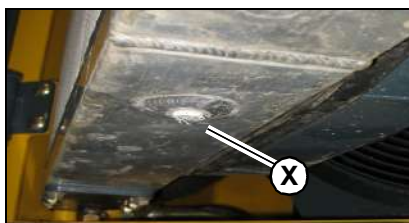

Figure 107 – Radiator Drain
5. Remove radiator drain plug (X, Figure 107) underneath the radiator and allow the coolant to drain into the container.